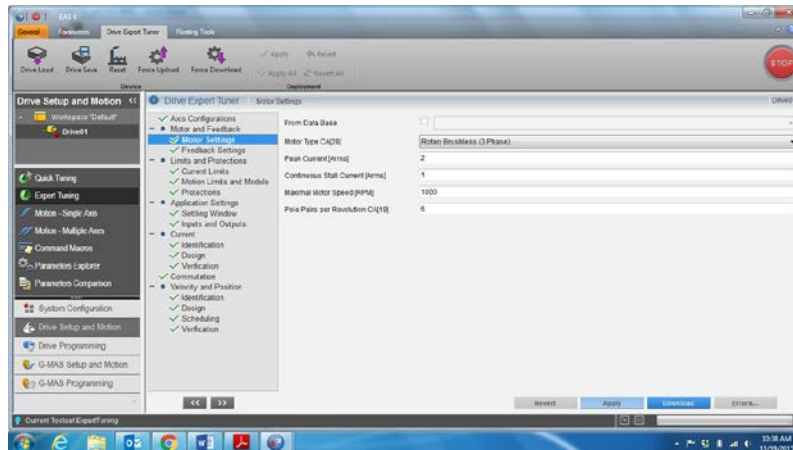

Figure 12
6.1.7 The AgilityRH has 6 poles, your motor values may be different. (Figure 12).